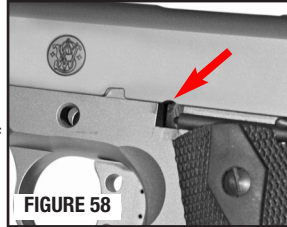

FIGURE 58
- Align the take down notch on the slide with the rectangular cutout of the frame (FIGURE 58).